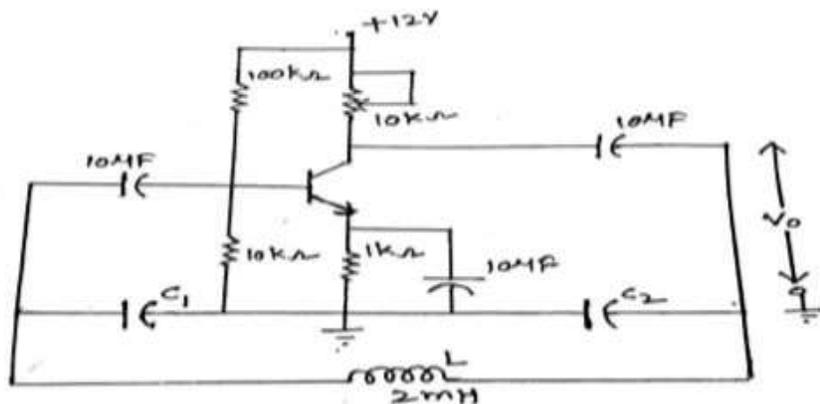

Fig : 2: Colpitts oscillator
- 1) Complete the circuit as shown in Fig. 2, by connecting the capacitors C1 & C2 provided on panel of the trainer.